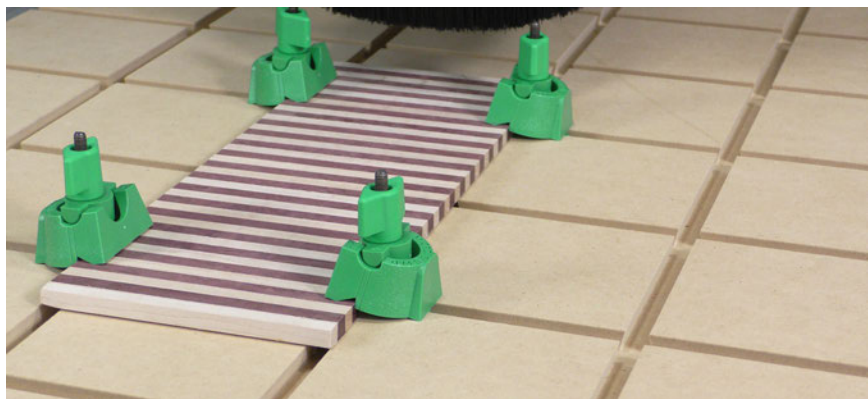

Fig 8b - U-Pad low
- 8.4. For stock from 1/16" (1.5mm) up to 1/2" (13mm) thick, the riser block 4C is not used. Secure the part by tightening the wing knob. (Fig 8b)